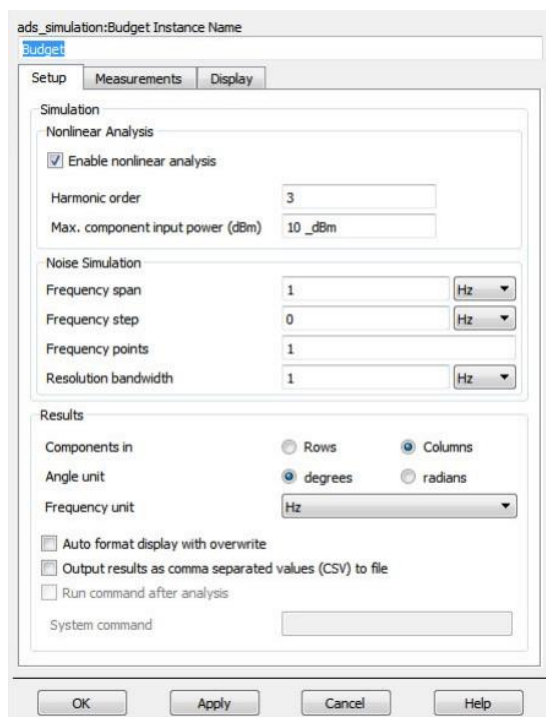

Figure 6. Budget simulation
3. Delete the HB controller. Insert the **Budget** controller from the **Simulation-Budget** library. Double-click the controller, and modify the parameters under the **Setup** tab as shown in Figure 6.